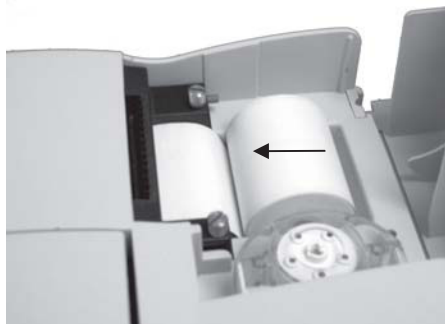

Fig. 6-30 Insert New Roll
4. With the OPTI CCA-TS powered on, place a new roll of paper in the chamber and thread it into the feeder. Use the diagram in the paper well to make sure the paper is inserted correctly (Fig. 6-30).